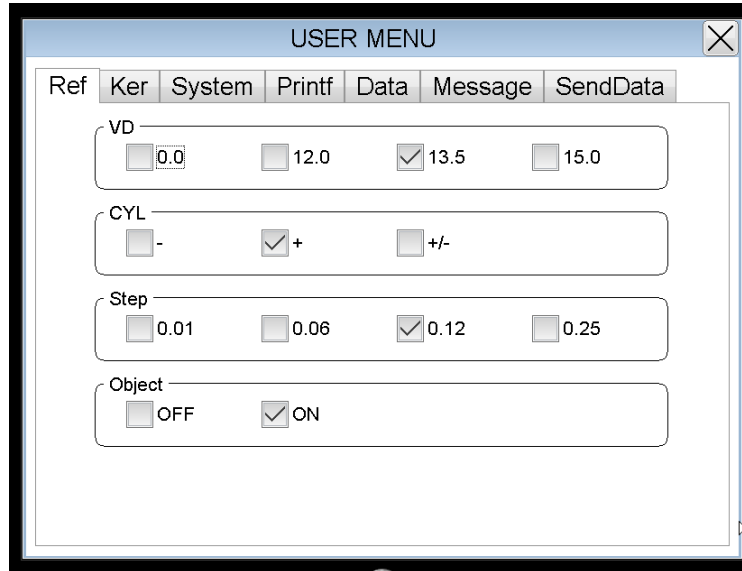

Figure 10
8.1.1 diopter setting (see Figure 10)